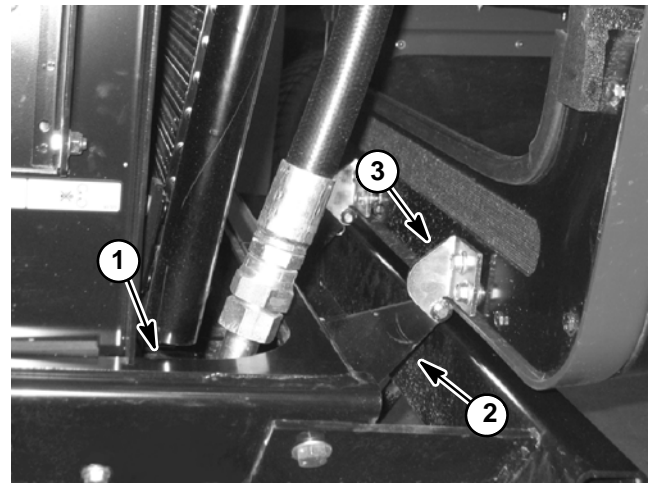

Figure 16
- A. Place shim that is 3/8" to 7/16" (9.5 to 11.1 mm) thick on top of frame (both RH and LH sides) near the sides of oil cooler (Figs. 16 and 17).